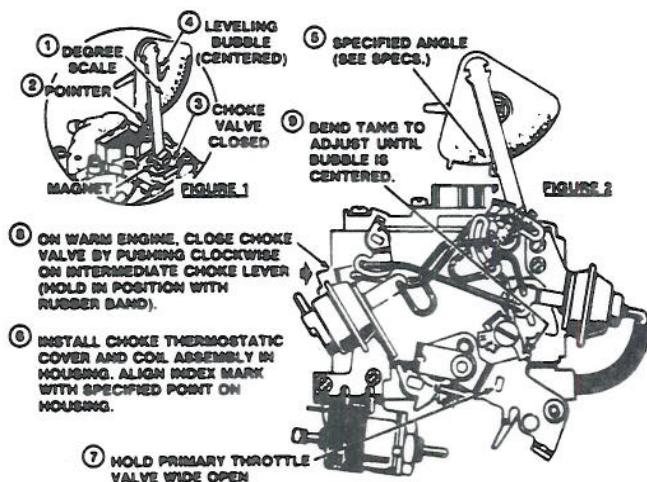

Fig. 17 Unloader adjustment. 1982 2SE & E2SE carburetors
1. Rotate degree scale until zero is opposite pointer, then with choke valve completely closed, place magnet on top of choke valve and rotate bubble until centered, Fig. 17.